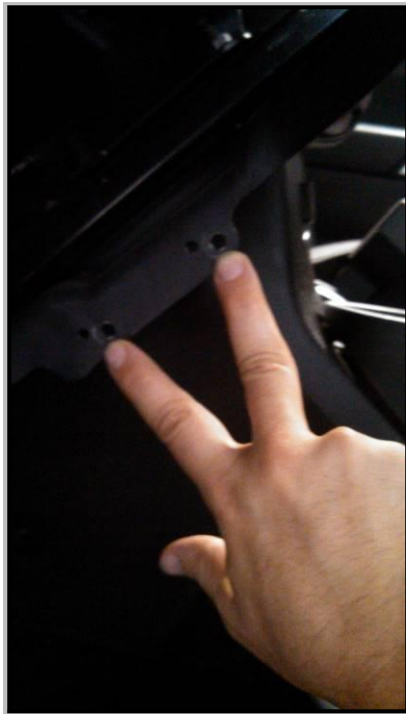
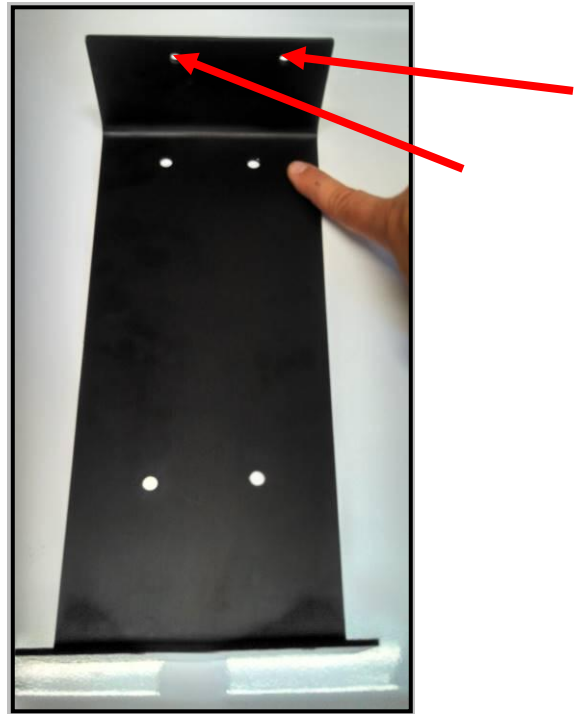

Figure 5
Figure 6
- 2-G) Bolt the provided bracket to the inner side seat frame rail (towards center of vehicle) using the two holes shown in Figure 5 (the lower, larger holes on the inner frame rail). Make sure the bracket is oriented as shown in Figure 6 with the red arrows indicating the mounting holes.